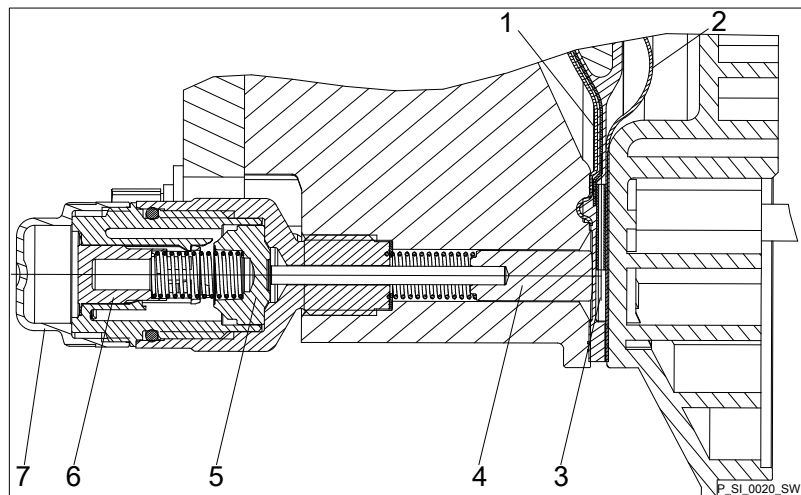

Fig. 37: Section through the Sigma diaphragm rupture warning system ("Visual rupture indicator" design)
2. ▶ If the piston of the diaphragm rupture sensor - see Fig. 37, item 4 - should have become dirty or damp, clean both it and the hole in which it runs.